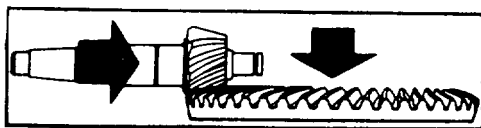

Figure 5-55A
3. HIGH TOOTH CONTACT - A high contact indicates pinion is too far out. Set the pinion to the correct depth by removing shims under the pinion cage. Slight outward movement of bevel gear may be necessary to maintain correct backlash. Fig. 5-55A shows adjustment of pinion or bevel gear to correct high tooth contact.